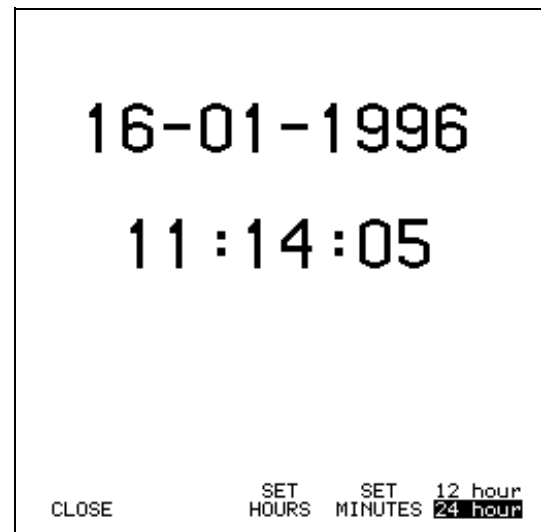

Figure 6-11. Menu for Setting the Time
2. Press (SET TIME) to open the time setting menu. Figure 6-11 shows an example of this menu.